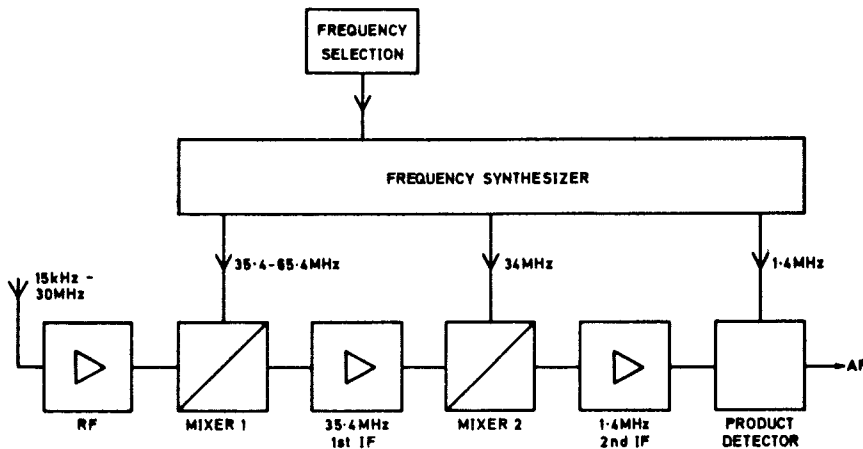

Fig.1 Simplified block diagram : receiver
1. For explanation purposes, the receiver may be divided into three main sections, namely, the frequency selection process, the frequency synthesizer and the r.f./i.f./a.f. stages (fig. 1).
15. The simplified block diagram of the receiver (fig. 1) shows the three mixer injection signals produced by the frequency synthesizer. The first i.f., at 35.4MHz, is high compared with the received signal frequency at the antenna, to provide good image rejection. To produce this first i.f., the frequency synthesizer must provide an output signal in the range 35.4 to 65.4 MHz. The second i.f., at 1.4 MHz, is low to provide good selectivity, and requires a fixed 34 MHz frequency output signal from the synthesizer. Finally, a frequency of 1.4 MHz is needed for the product detector for the reception of s.s.b. signals.